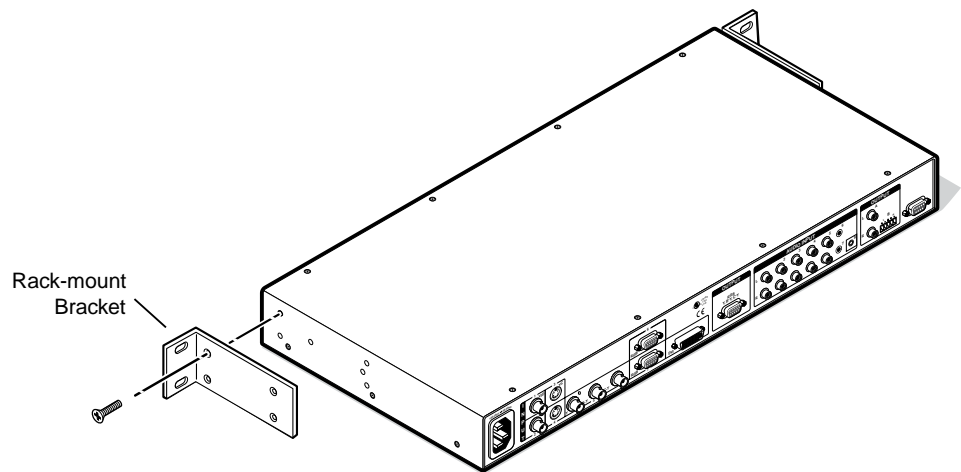

Figure 36. Mounting the Switcher
The following Underwriters Laboratories (UL) guidelines pertain to the installation of the switcher into a rack (figure 36).
- 1.** Attach the rack mounting brackets to the switcher with the supplied eight #8 machine screws (figure 36).